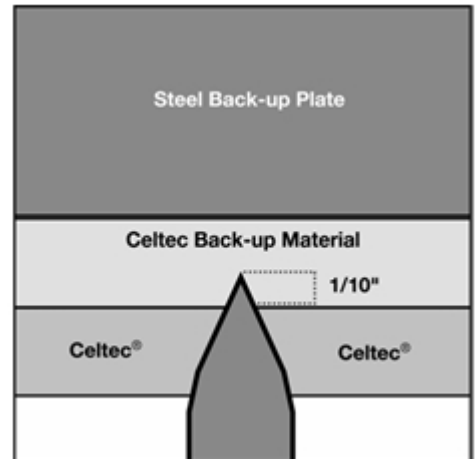

Figure 1f
**The backup plate.** Steel is often used to fabricate backup plates because the plate must not be too soft. However, steel plates can sometimes cause incomplete penetration of the Celtec, which also causes the material to fracture at the end of the cutting stroke. One method of avoiding this problem is to use a backup plate made from a sheet of Celtec or of chipboard placed over the steel backup plate. These softer materials enable the die to penetrate about 1/10” inch beyond the Celtec sheet, producing a cleaner cut (Figure 1f).